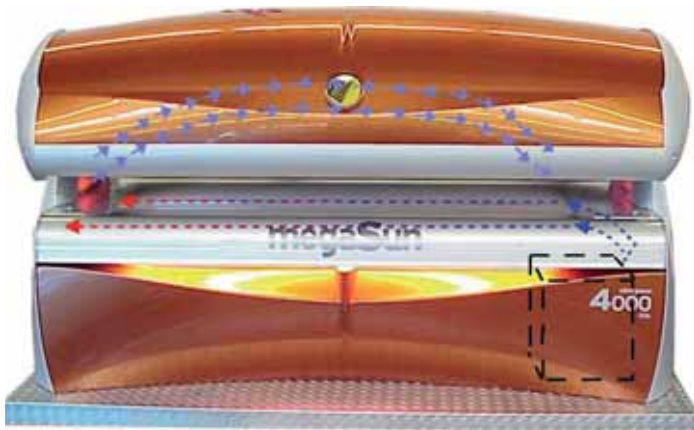

Figure 3-22 Principle of cooling of the base section with air-conditioning unit
*Body cooling:* A body fan blows ambient air (if not equipped with air-conditioning unit), or chilled air (if equipped with air-conditioning unit), into the tanning space of the system (blue). The air spoiler at the canopy pane directs this air towards the face. (see Figure 3-22)